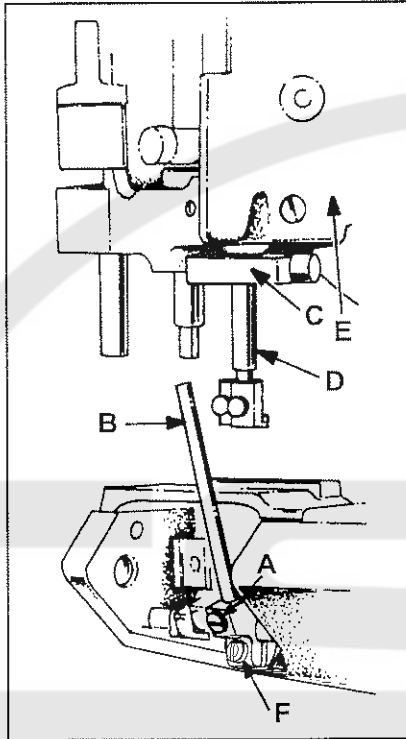
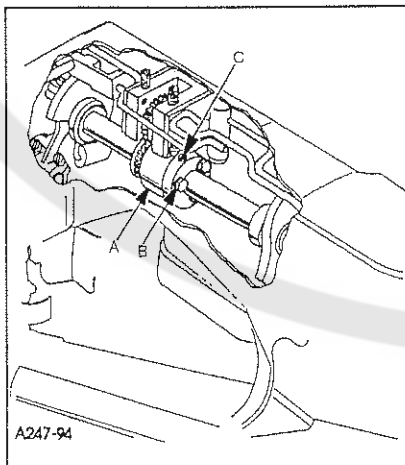

FIG. 2
FIG. 3
To synchronize the machine, remove the needles, presser foot, throat plate, feed dogs and upper feed roller mechanism. Rotate handwheel in the operating direction until the needle bar is at the bottom of its stroke and just begins its upward travel. Loosen screw (A, Fig. 2) and remove the looper for the left hand needle from the looper holder. Insert a straight steel rod (B)  $5/32$ " (3.9mm) or  $11/64$ " (4.3mm) diameter by  $2-1/2$ " (63.5mm) long into looper holder and retighten screw (A). Rotate the handwheel until the rod (B) is at the extreme left and reinstall the throat plate. Loosen screw (F) in looper holder and move the holder left or right until the right side of the rod is approximately  $5/32$ " (4.0mm) from the left edge of the throat plate, tighten screw (F). Turn the handwheel in the operating direction, with needle bar rising until rod (B) comes in contact with the edge of the throat plate. At this point, clamp Union Special timing gauge No. TT147 (C) around the needle bar (D), flush against the underside of the machine casting (E). Rotate handwheel in the opposite direction until either the gauge contacts the machine casting on the up stroke of the needle bar or the rod contacts the edge of the throat plate. Maximum allowable clearance between gauge and casting or rod and throat plate is .005" (0.1mm)
Both ends of the adjustable split coupling are secured to the crankshaft and main shaft by spot screws and set screws. On the main shaft end of the coupling (A, Fig. 3) three screws (B) thread horizontally through the coupling. The holes in the main shaft end of the coupling are larger than the diameter of the screws, permitting several degrees of rotation in either direction to properly synchronize the needle and looper. Loosen the three horizontal clamp screws (B, Fig. 3). With rod (B, Fig. 2) at its farthest position to the left, snug the uppermost horizontal clamp screw enough to hold coupling (A, Fig. 3) in position. If the handwheel is turned in reverse of operating direction and gauge (C, Fig. 2) on needle bar (D) contacts the machine casting (E) before rod (B) contacts the edge of the throat plate, loosen horizontal clamp screw (B, Fig. 3) which was snug, while holding the coupling in place with an Allen wrench in set screw (C). Rotate the handwheel slightly in reverse of operating direction, snug the uppermost horizontal clamp screw (B), recheck synchronization. If the handwheel is turned in reverse of operating direction and the rod contacts the edge of the throat plate before the clamp gauge contacts the machine casting, adjust as before, except turn the handwheel slightly in the operating direction. Use shim stock to insure no more than .005" (0.1mm) exists between gauge and casting or between rod and throat plate, in
both the operating and reverse directions of the handwheel. When this setting has been made, tighten the three horizontal clamp screws (B, Fig. 3) securely, and recheck both clearance points with .005" (0.1mm) shim gauge to assure no slippage occurred while tightening the screws.